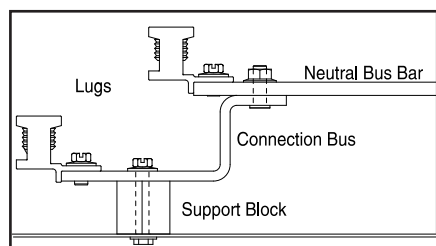

Fig. 12: Neutral assembly detail
The Neutral Lug can also be moved from its factory installed location below the cross bus to an alternate location above the cross bus. Remove (2) 1/4-20 screws (3/8" hex), relocate Neutral Lug to alternate location and reinstall. Tighten screws to 30-35 lb.-in. See Fig. 12.
Additionally for 4-6 position stacks only: Remove the 1/4-20 nut (7/16" drive) on the Neutral Bus Bar and the 1/4-20 screw (3/8" drive) mounting extended Connection Bus to the red Support Block, and remove the extended Connection Bus with the lugs on. Relocate red Support Block to top position (thread onto existing 1/4-20 screw). Reinstall extended Connection Bus with lugs in top position. Tighten 1/4-20 nut (7/16" drive) to 60-65 lb.-in. Tighten 1/4-20 screw (3/8" drive) to 30-35 lb.-in. See Fig. 12.